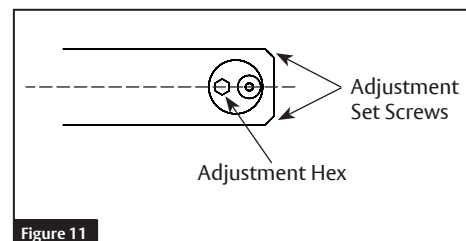

Figure 11
4. Align hub initially as shown and insert two (2) 10-24 x 3/8" Adjustment Set screws. Turn both set screws just enough to retain slider centering hub. Do not tighten firmly at this time. (Figure 11)